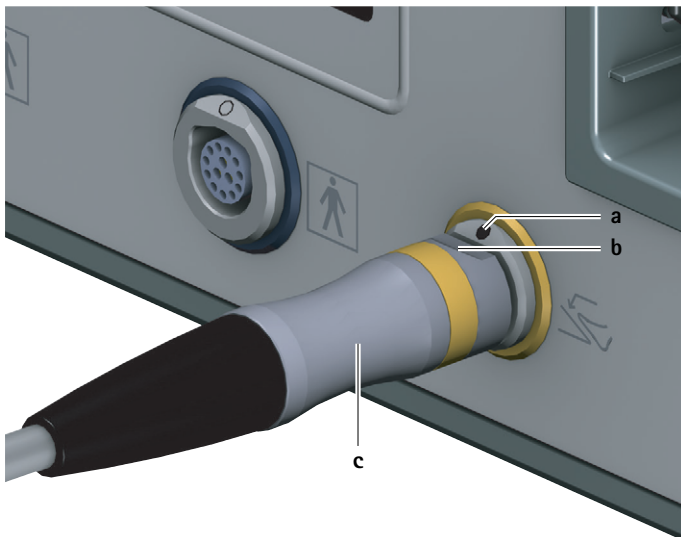

Fig. 2 Connecting the foot control
- Position connector of foot control **c** so that marking **b** on the connector is aligned with marking **a** on the connection socket for foot control **6**, see Fig. 2.
- ▶ Unplug connector for foot control **c** from the connection socket for foot control **6**, see Fig. 2.